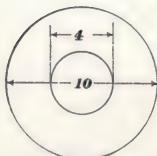

FIG. 48.
**EXAMPLE 2.**—What is the area of a flat circular ring, Fig. 48, whose outside diameter is 10 inches and inside diameter is 4 inches?